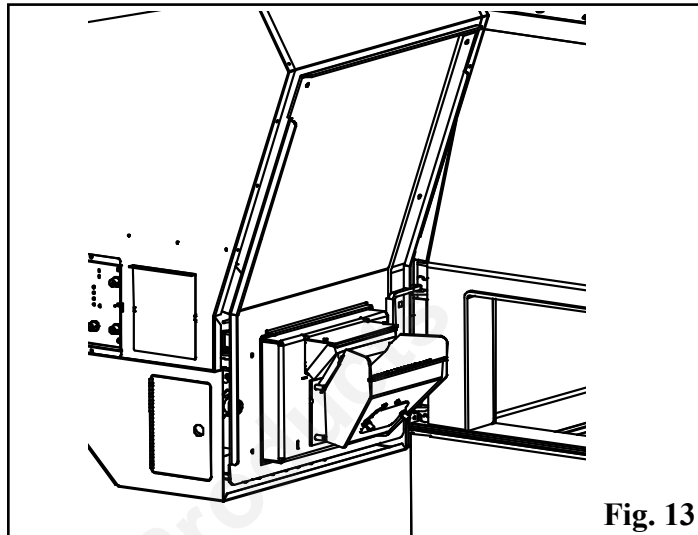

Fig. 13
7. **Open hopper swing plate** as shown in Fig. 13 (See "NOTE" on page 26.)